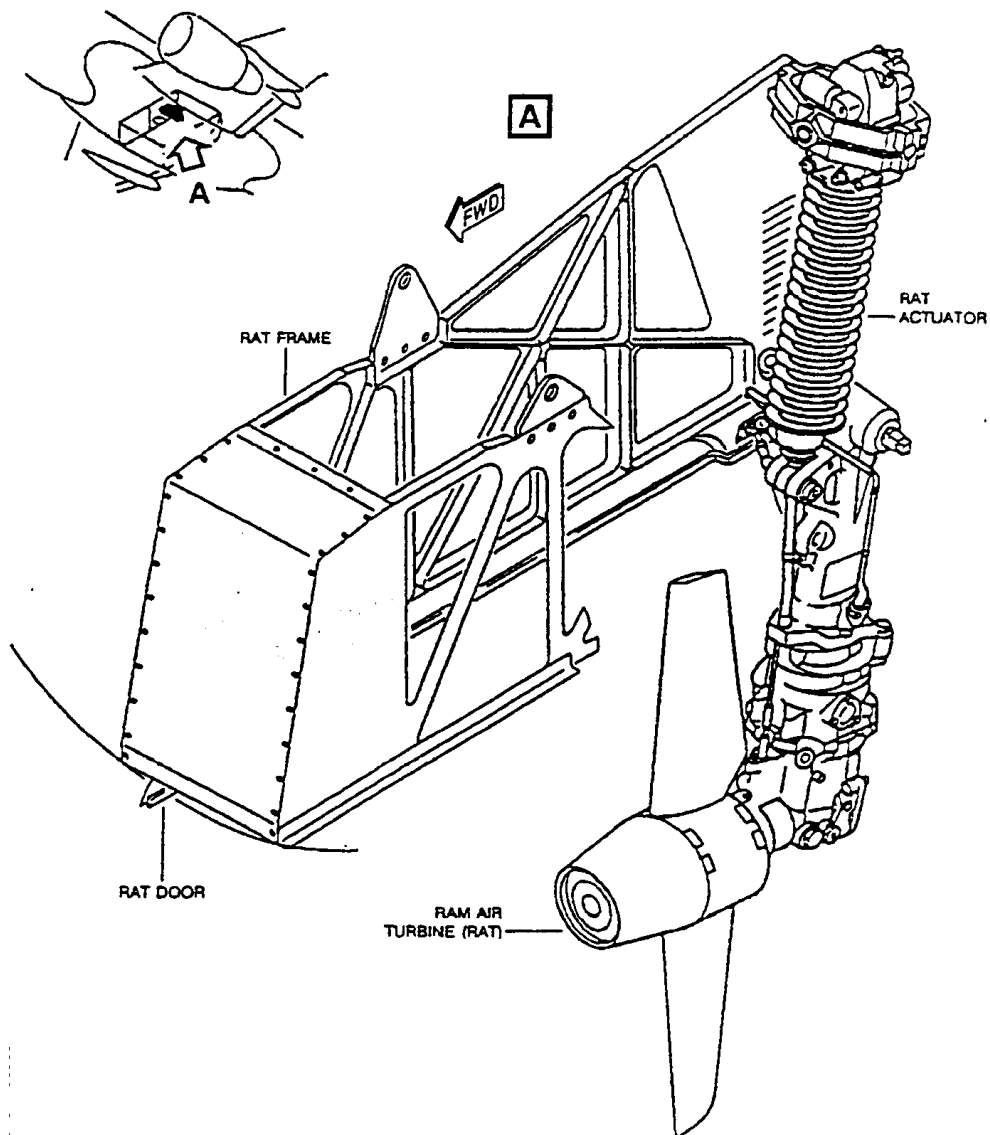

Figure 8.8 A321 ram air turbine (RAT)
For minor tasks, *hand pumps* may be applied. A *ram air turbine* (RAT) (Figure 8.8) may be turned into the free stream of air to power a hydraulic pump. This is done in the event of an engine failure or a major electrical system failure.
- The Blue system can also be pressurized by the ram air turbine (RAT) (Figure 8.8).